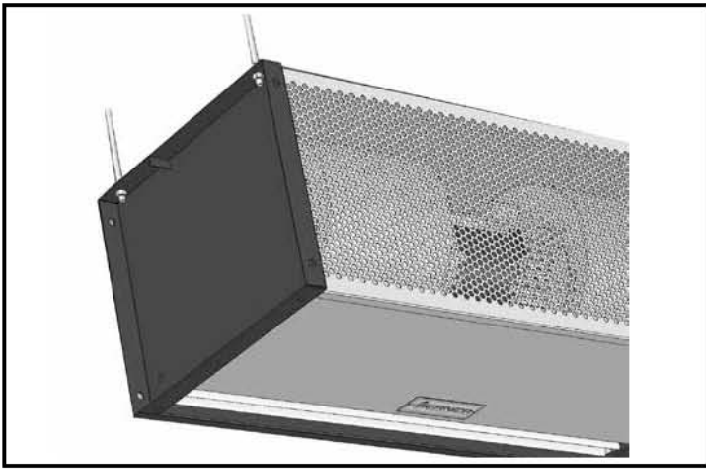
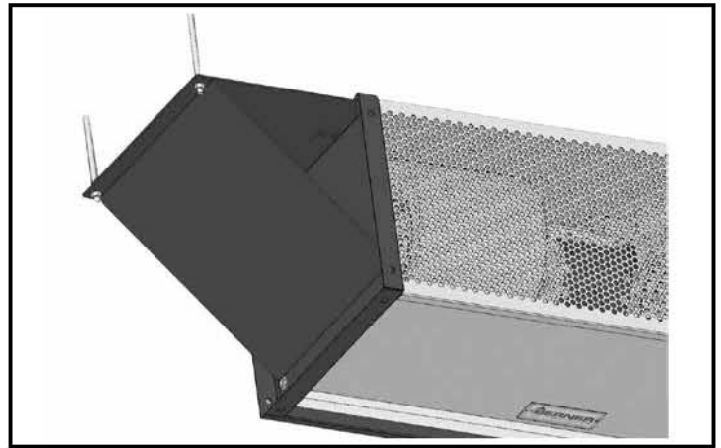

FIGURE 3 - Threaded Rod Suspension
FIGURE 4 - With Extension Brackets
- B. The IDC12/IDC14 Series end plates are equipped with $\frac{1}{2}$ " holes for suspended mounting. The unit may be suspended using a minimum $\frac{3}{8}$ " suspension rod (Figure 3), or using $\frac{3}{8}$ " suspension rods and extension brackets (available from US). See Figure 4.